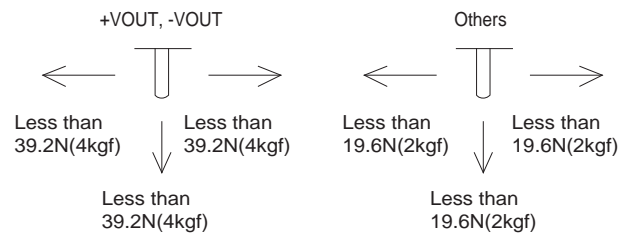

Fig. 6.1 Stress to the pins
■ When too much stress is applied to the pins may damage internal connections. Avoid applying stress in excess of that shown in Fig. 6.1.